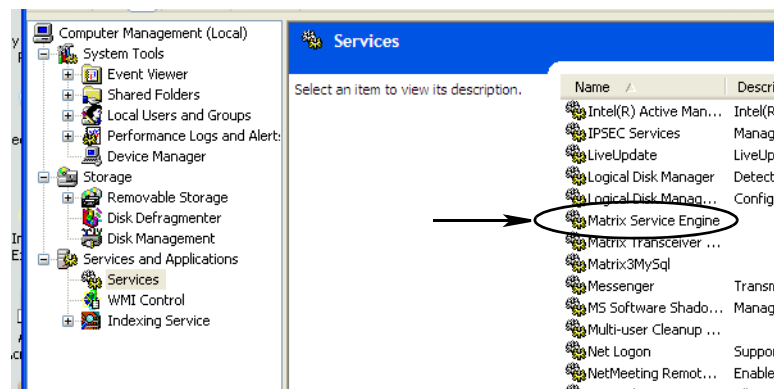

FIG. 56
- d. Double click Matrix System Engine on the Services list (FIG. 56).